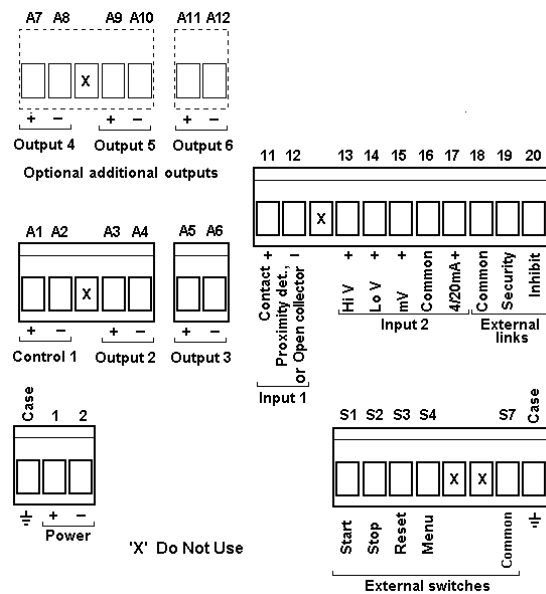

Fig 10 Installation and terminal connections
- Connect the panel wiring to the rear terminal block(s) as shown in Fig 10. To simplify installation, the terminals are removable so that panel wiring can be completed before the instrument is installed.